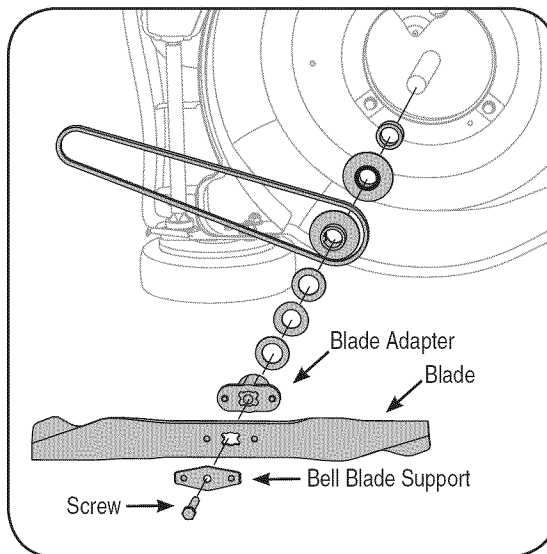

Figure 5-3: Remove blade and hardware.
2. Remove bolt, blade bell support, blade, and blade adapter from the engine crankshaft, Figure 5-3. **When removing these items, the spacer, pulleys, and washers will come loose. Be sure to make note of the orientation of these items for reassembly.**